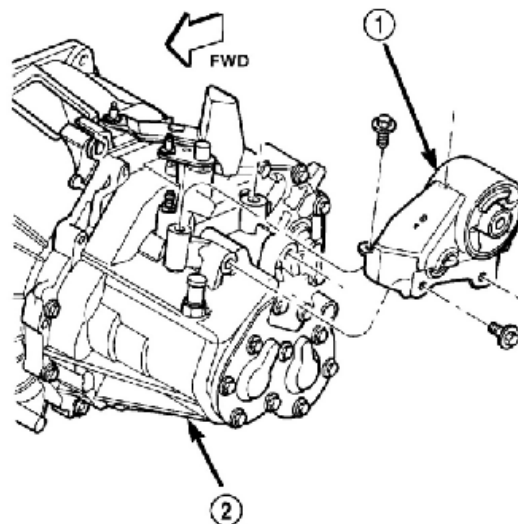

Figure 3-35 Mounting and support on transaxle
(25) To assemble a new transaxle or replace the transaxle, remove the upper mounting (Figure 3-35). Mount the replaceable unit and screw down all bolts to 68Nm (50 ft. lbs.).